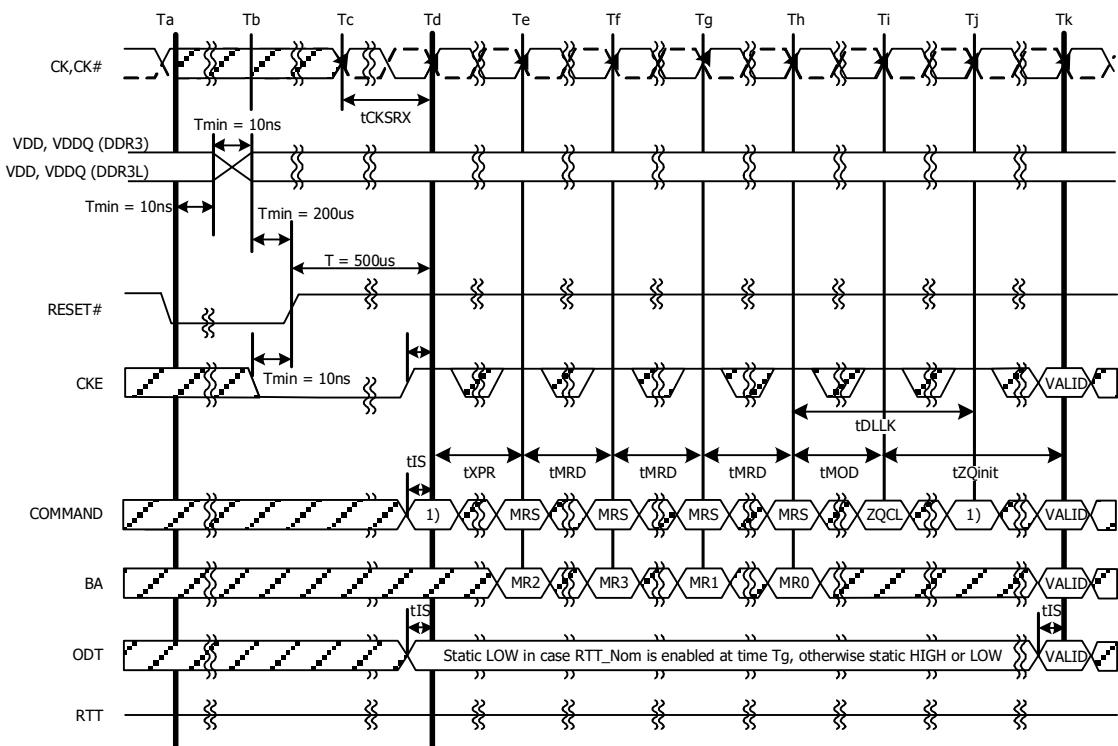

Figure 0 - VDD/VDDQ Voltage Switch Between DDR3L and DDR3L
4. Once initialized for DDR3L operation, DDR3 operation may only be used if the device is in reset while VDD and VDDQ are changed for DDR3 operation (see Figure 0).
3. Once initialized for DDR3 operation, DDR3L operation may only be used if the device is in reset while VDD and VDDQ are changed for DDR3L operation (see Figure 0).